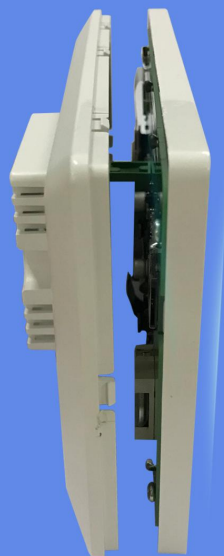

fig.3
2. Open the front and rear Cases (fig.3)